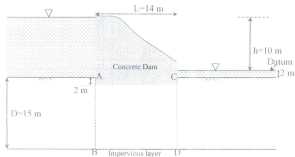

Fig.3
5. A concrete Dam is shown in Fig.3. Answer the following questions – (35) (CO2) (PO2)